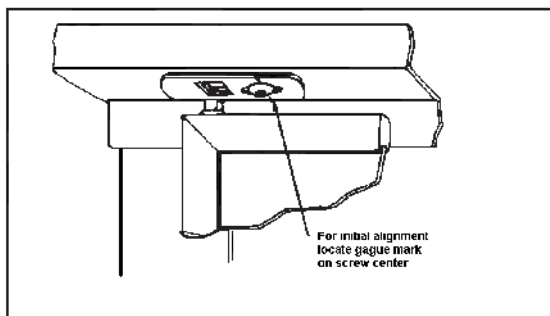

Figure 10
- Be sure the upper hinge mounting plate is aligned property with the screw head centered on the gauge mark on the plate. Refer to Figure 10 .